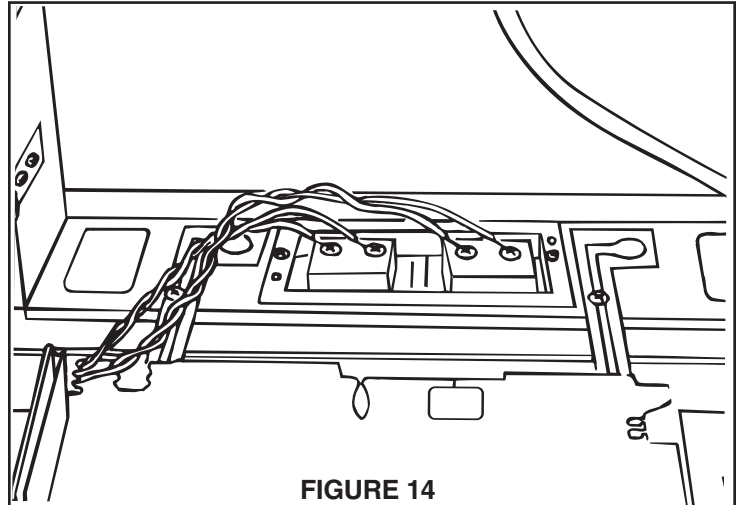

FIGURE 14
1. Refer to Figure 14. The transformers' primary leads should already be connected to the 120 volt AC house supply wiring. Be sure power is off before connecting